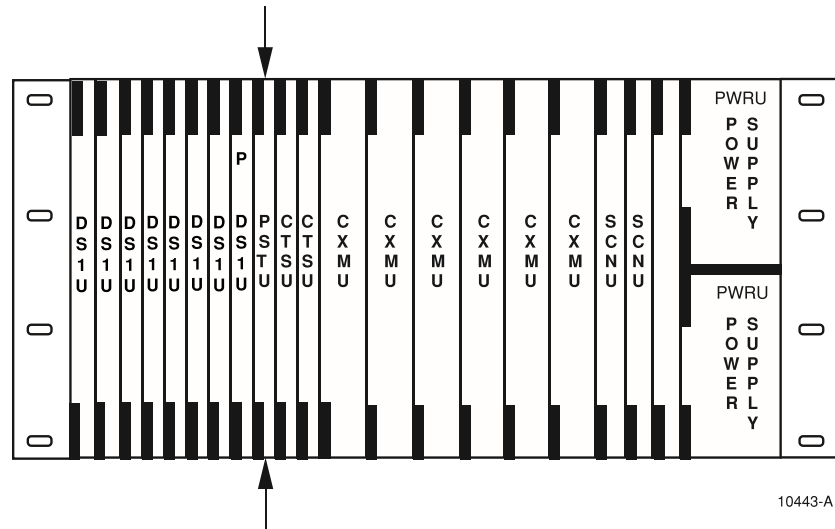

Figure 5-14. PSTU Position in HDT Mounting Shelf
5. Insert the PSTU into the PSTU location in the HDT mounting shelf as shown in Figure 5-14.